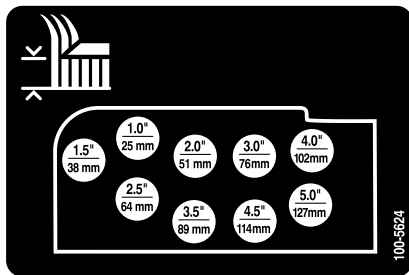

Figure 20
9. Mount the height-of-cut chains to the desired height-of-cut hole with the clevis pin and hairpin cotter (Figure 20).